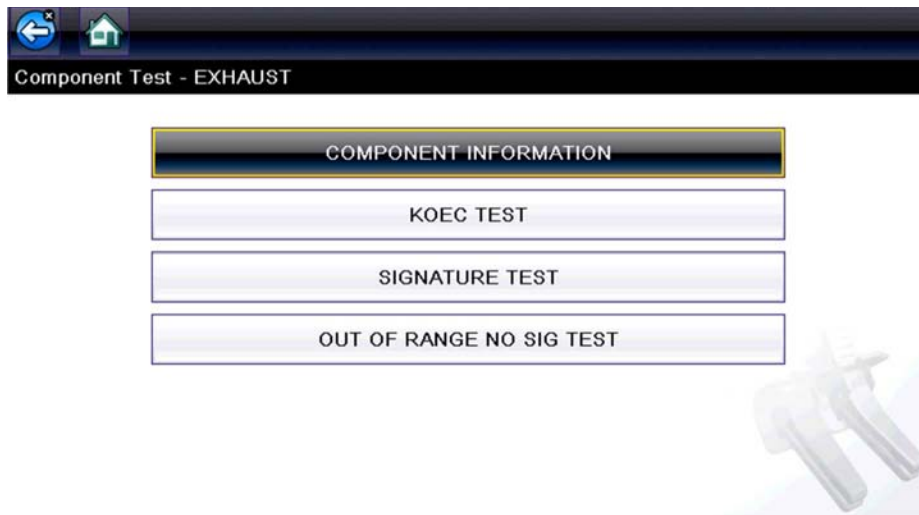

Figure 8-5 *Component Tests Menu*
2. Select **Component Information** from the Component Test menu (Figure 8-5).